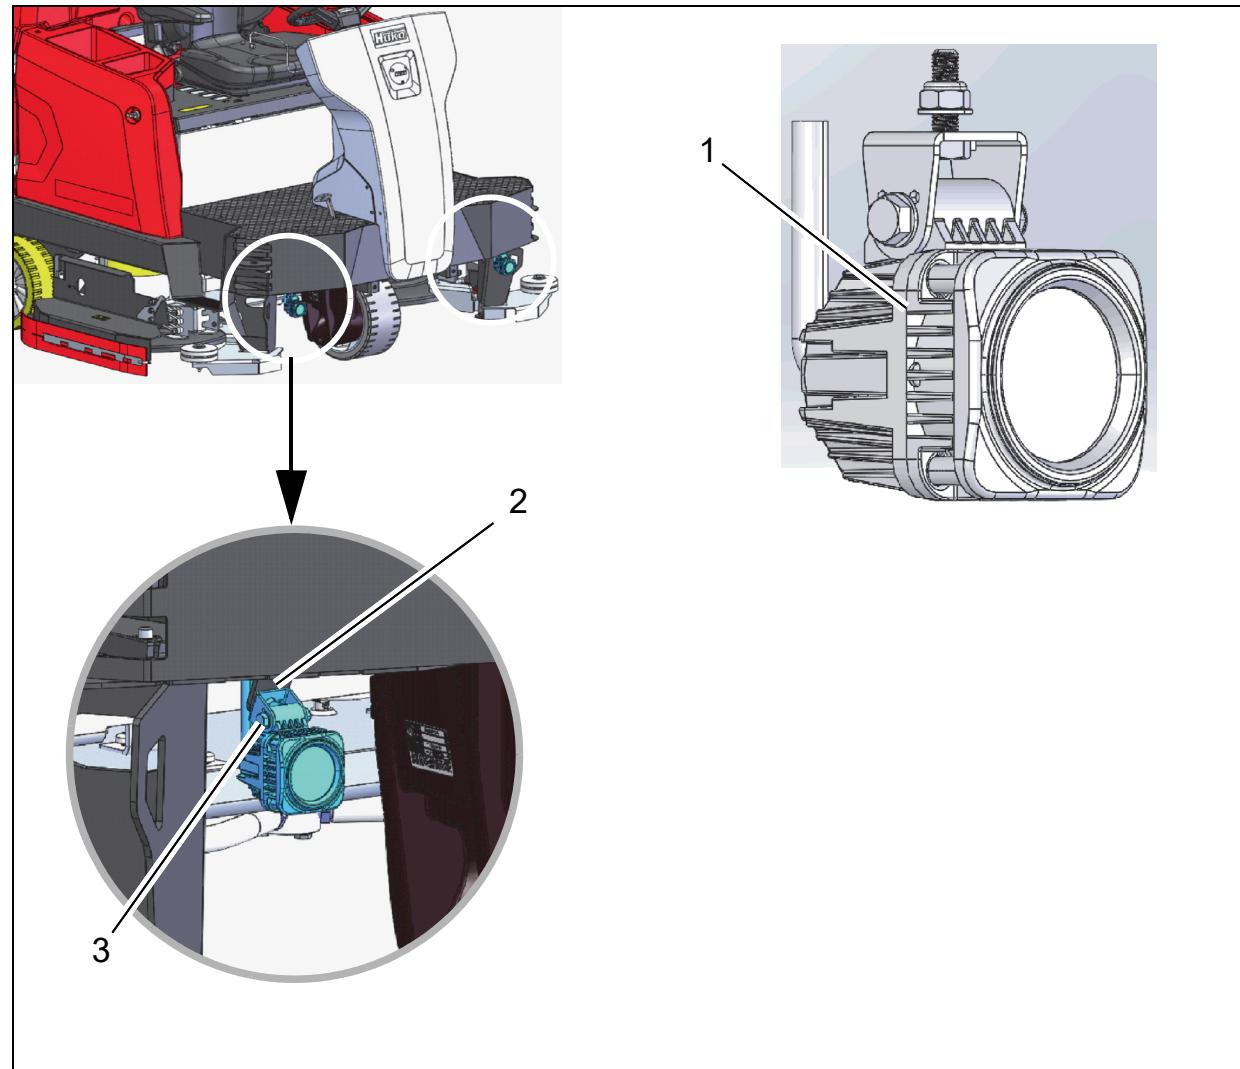

Fig. 1
pre-assembled (Fig. 1/1)
2. Underneath the bumper of the basic machine, there are two tabs with a through hole (Fig. 1/2). Feed the thread of the LED working light through the hole.
3. Attach the LED working light to the tab using the washer and the nut (Fig. 1/3).